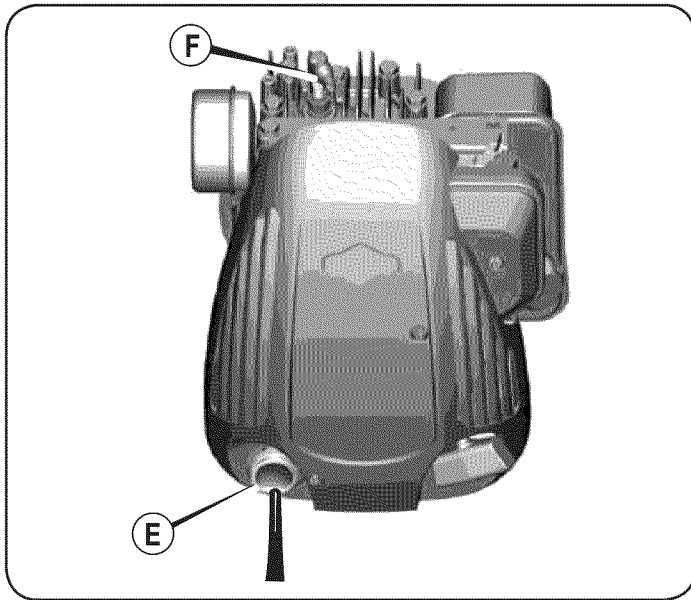

Figure 18
4. If you drain the oil from the top oil fill tube (E), keep the spark plug end of the engine (F) up. See Figure 18. Drain the oil into an approved container.